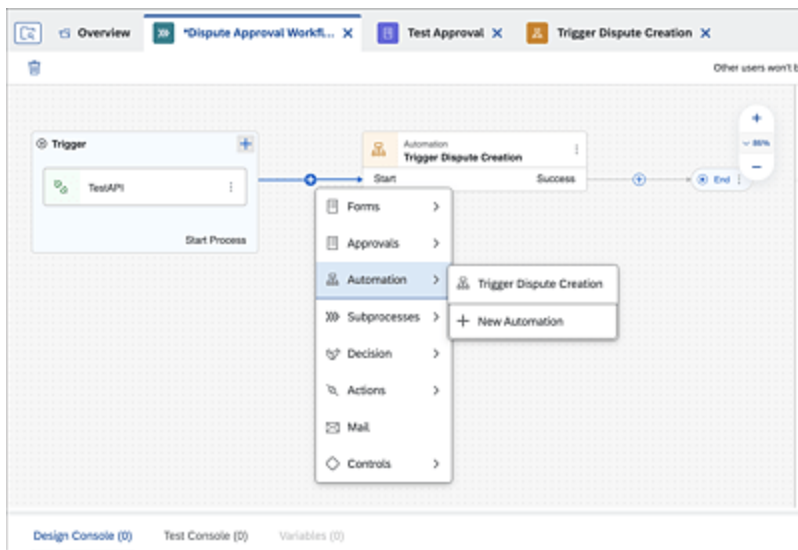

Figure 18.48 Adding an Automation Task in Your Process
- From the + button menu, chose **Automation**, as shown in Figure 18.48. The process builder will list the existing automation tasks within your project that you may have
created earlier and let you select. In Figure 18.48, **Trigger Dispute Creation** is an already created automation that is available for you to select.